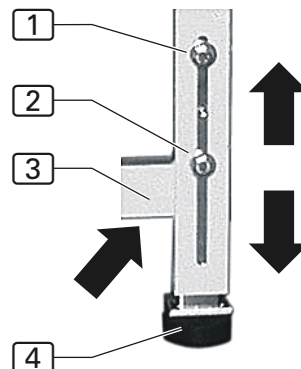

Fig. 1
1. **Fig. 1:** Lift machine: Connect lifting device at lift points (arrows) below the crossmembers. If the machine is equipped with the optional transport rollers, release brakes before lifting.